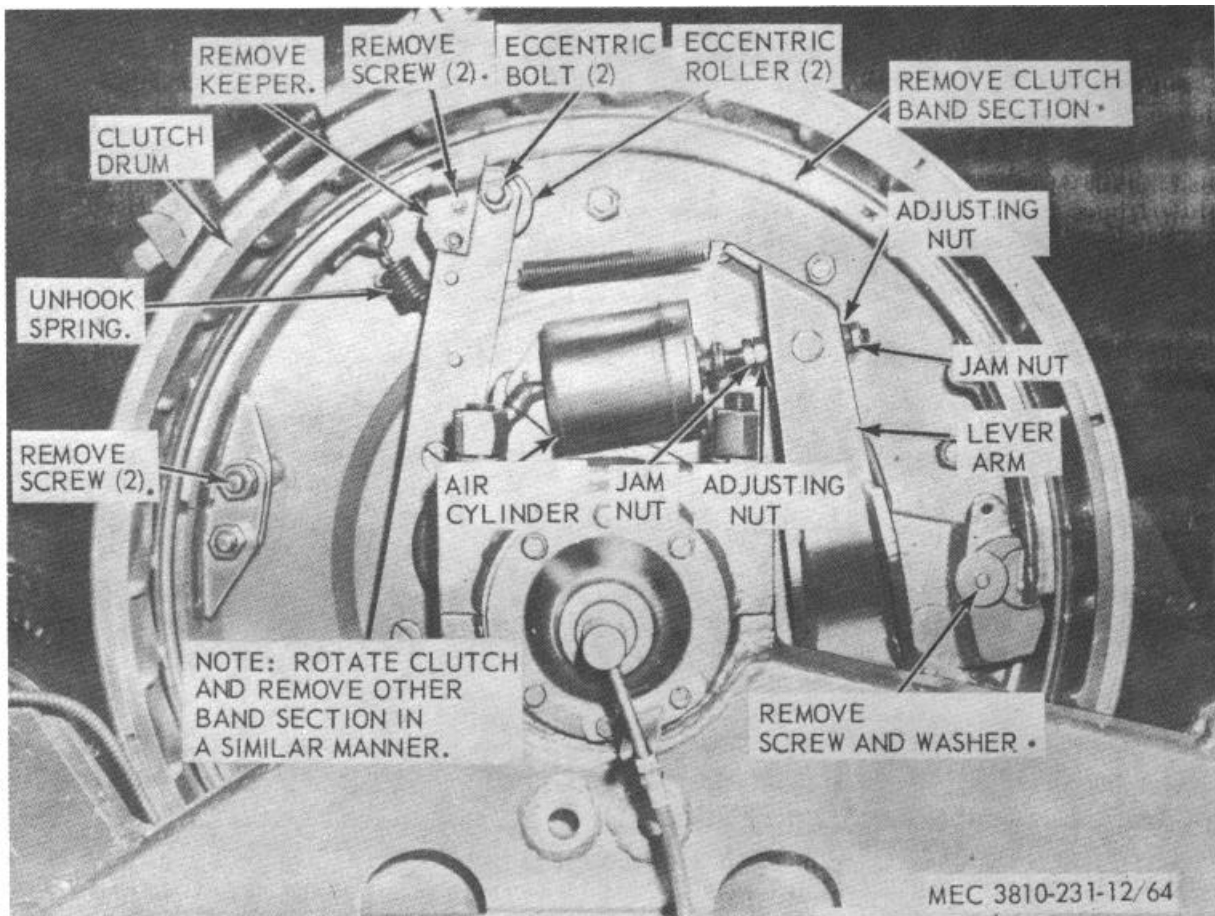

Figure 64. Main hoist and secondary hoist clutch, adjustment, removal and installation.
- (1) To compensate for lining wear on the main hoist and secondary hoist clutches, loosen jam nuts (fig. 64) and turn adjusting nut so band will not drag on drum when clutch is hot. A clearance of 1/16 inch between clutch lining and drum at the lower part of the clutch should be maintained.
- (2) The eccentric rollers mounted on the eccentric bolts should be rotated to provide uniform clearance between clutch band and drum when the clutch is in the released position. Tighten jam nuts after completing the adjustment.
- (3) Jam nuts must be tightend after the adjustment is complete.
- (4) It is good practice, before the clutch linings are worn out, to interchange the dead shoe with the live shoe. Most of the lining wear will be concentrated on the dead shoe.